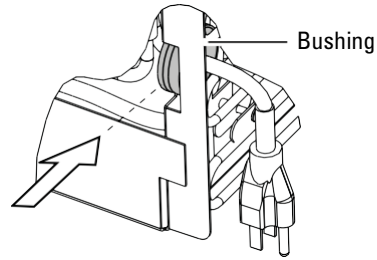

Figure 26: Secure AC Power Cord (Full length of line cord not depicted)
- 20. Route the AC power cord through the refrigeration module and secure it in place with the bushing (Figure 26).